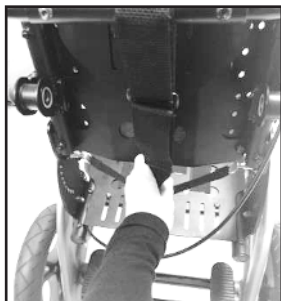

Fig. 8
2. While holding the back on the push handle, pull on the recline cord. Make sure you are pulling from the center of the pull strap. Fig. 8